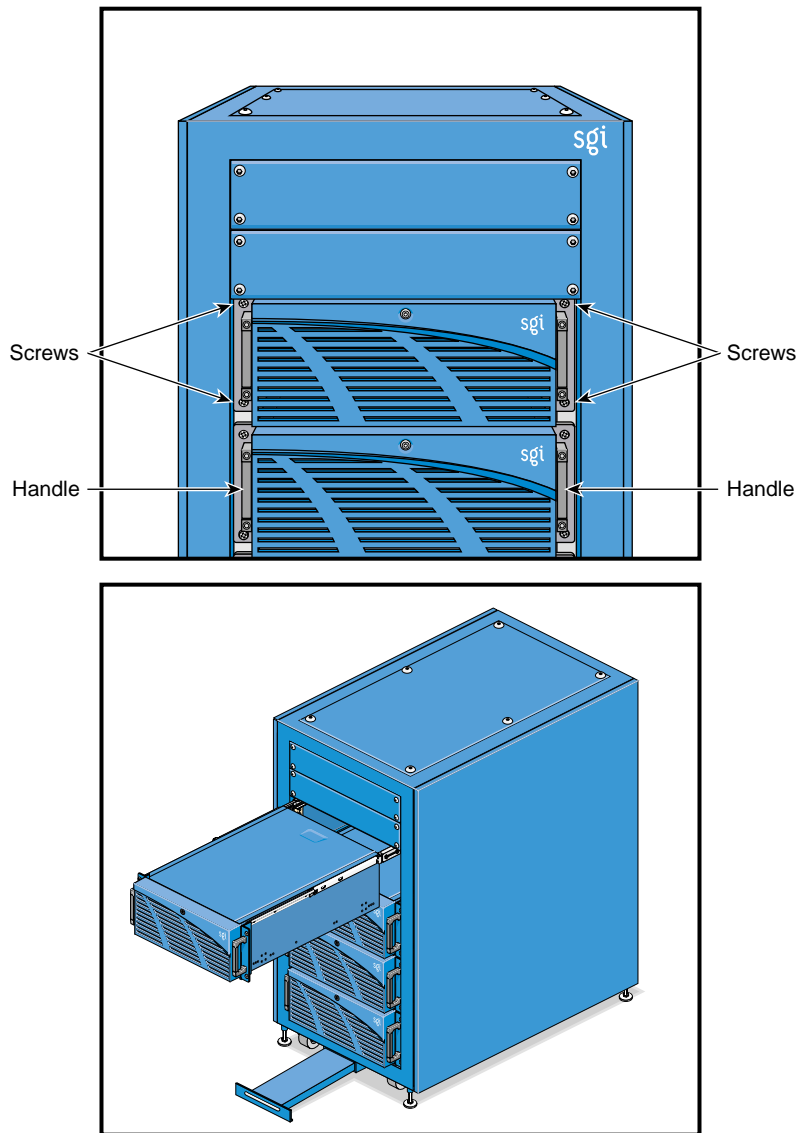

Figure 4-17 Securing the Node to the Rack Chassis
- Secure the node to the rack chassis by screwing in the two screws at each side of the node. These screws are above and below each handle; they thread into clip nuts in the rack's slide rails. See Figure 4-17.